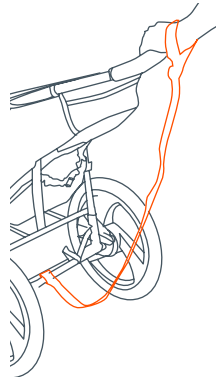
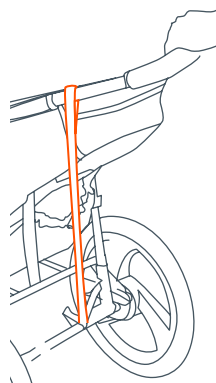

Fig. 16a
Fig. 16b
- **SAFETY WRIST STRAP:** Always connect the safety strap to either wrist when jogging. This strap will keep the stroller from rolling away in the event that you trip while running (Fig. 16a). The safety strap must remain connected to the rear lower frame cross member at all times. This location is intended to prevent the stroller being tipped backwards in the event that you do fall to the ground. The safety strap includes a hook and loop attachment for storage, on the left side of the stroller, when not in use (Fig. 16b).